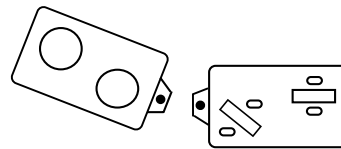

Figure 2. Battery tabs shown
1. Holding the transmitter with the buttons face down, remove the case back by using the blade of a small screwdriver to pry it open (see Figure 2).